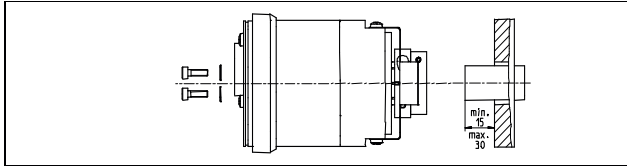

Figure 10–6: Note of Installation
- ◆ Loosen the socket-head screw (1) on the clamping ring (2).
- ◆ Push the encoder and collet onto the drive shaft. -- Take note of installation (Figure 10–6).
- ◆ Fix the torque support (3) with 4 M3 screws (4) and washers.
- ◆ Firmly tighten the socket-head screw (1) on the clamping ring (2).